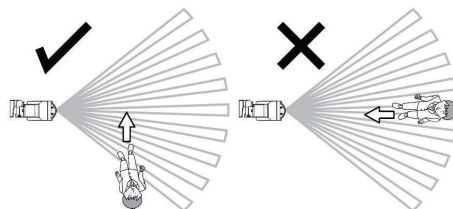

Figure 2
- When selecting the right place to install your detector, keep in mind that the best movement detection is provided when the detection zones intersect Figure 2.